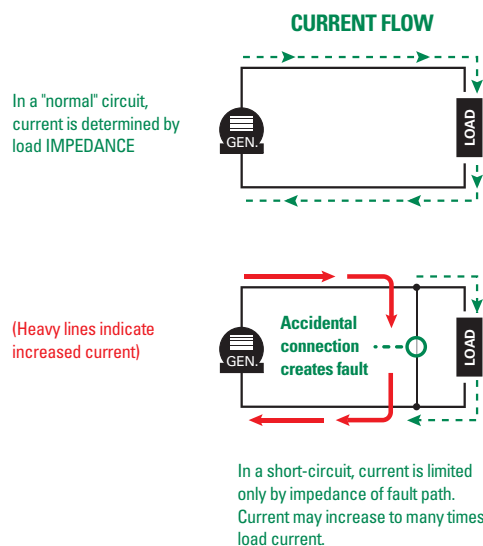

Figure 16 – Current Flow in Normal and Short Circuit Situations
**Short-Circuit** (See Figure 16) – A current flowing outside its normal path, caused by a breakdown of insulation or by faulty equipment connections. In a short-circuit, current bypasses the normal load. Current is determined by the system impedance (AC resistance) rather than the load impedance. Short-circuit currents may vary from fractions of an ampere to 200,000 amperes or more.